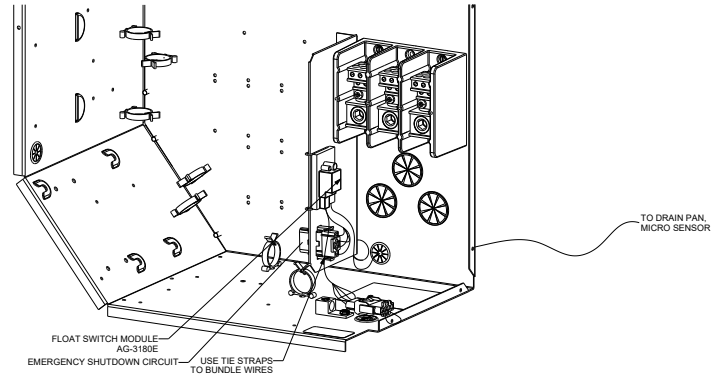

Figure 13
7. Use the adhesive strip to attach the bracket to the voltage barrier plate as shown in Figure 13.